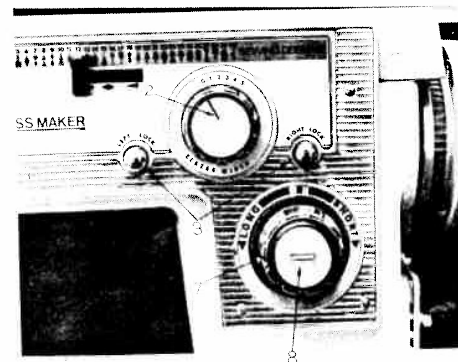

Fig. 12
Be sure to set the stitch width at 0. Adjust stoppers (3) to hold zigzag width control dial (2) in 0 position. (Fig. 12)
The length of the stitch is regulated by knob 7 shown in Fig. 12. Near 0 is the shortest and 5 is the longest. Turn the knob to the left to lengthen and to the right to shorten the stitch.
When you wish to sew in reverse to tie the thread at the beginning or the end of a seam, press in the reverse push button 8 Fig. 12 as far as it will go. The machine will sew backward as long as the button is held in. Only 4 or 5 stitches are needed to tie a seam securely.
To stitch continuously at one width of zigzag stitching set lock 3 (Fig. 12-B) to hold zigzag width control dial at width chosen. Should you wish to move freely between any two widths, (in doing free hand embroidery), move zigzag width control dial to the right and set left hand locking stopper at desired width.